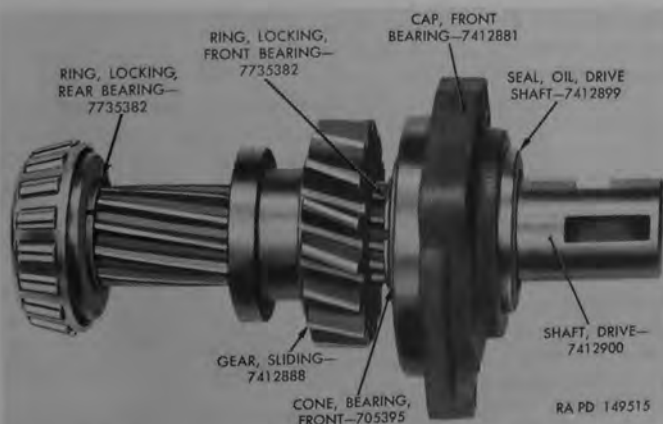

Figure 91. Drive shaft, sliding gear, and bearings assembled.
e. Wrap shim stock around front end of drive shaft (VV) to protect oil seal from damage during installation; then install front bearing cap on front end of drive shaft. Figure 91 shows drive shaft components assembled, ready for installation in housing.
f. Using light coat of plastic type gasket cement, mount two front bearing cap gaskets (AB) at housing; then place drive shaft assembly through bore in front of housing and move into place with bearing